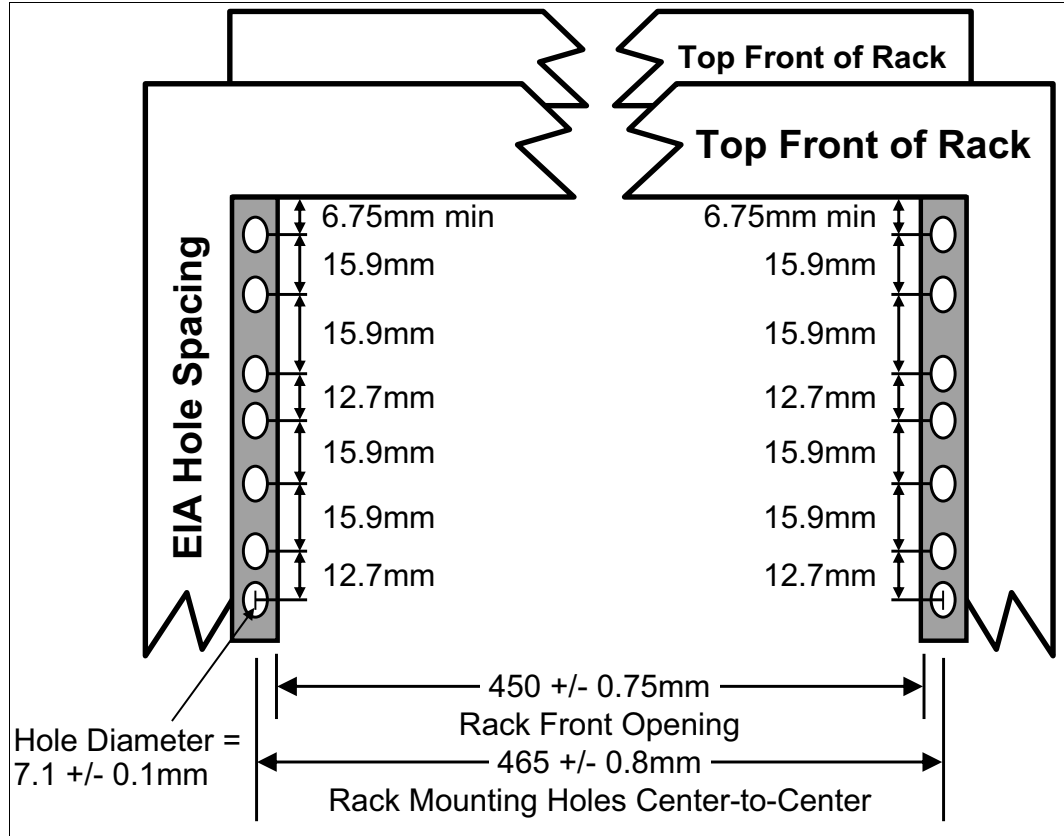

Figure 1-16 Rack specification dimensions: Top front view
- ▶ The vertical distance between the mounting holes must consist of sets of three holes spaced (from bottom to top) 15.9 mm (0.625 in.), 15.9 mm (0.625 in.), and 12.67 mm (0.5 in.) on-center, making each three-hole set of vertical hole spacing 44.45 mm (1.75 in.) apart on center. Rail-mounting holes must be 7.1 mm ± 0.1 mm (0.28 in. ± 0.004 in.) in diameter. Figure 1-16 shows the top front specification dimensions.